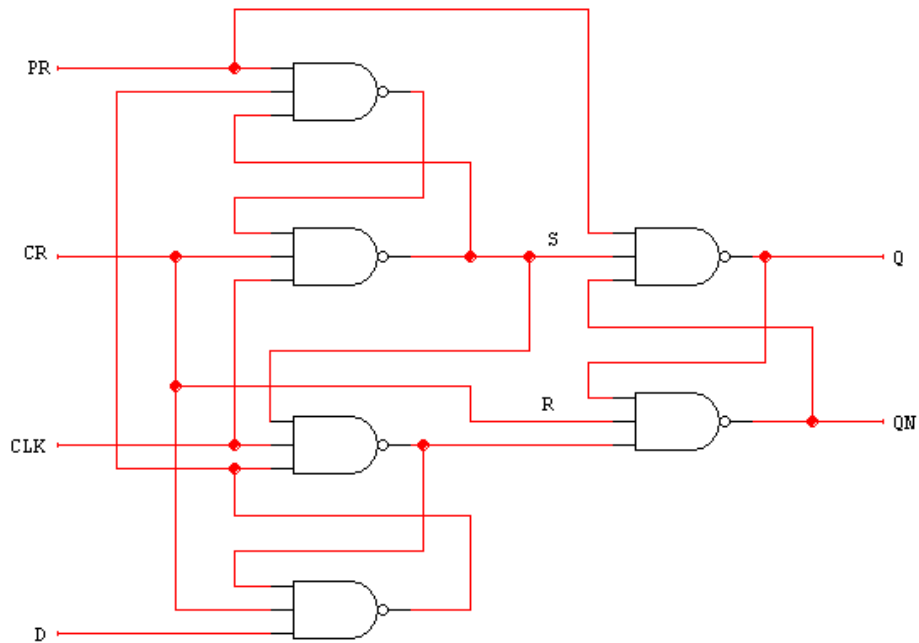

Figure 4-4: NAND gate version of the D Flip-Flop with Preset (PR) and Clear (CR)
Write a Data Flow model description for a NAND gate version of the D Flip-Flop with Preset (PR) and Clear (CR). The logic diagram for the NAND gate version is on Figure 4-4. Draw a Block diagram for your report with the signal names you used in your Hardware Description. Again, you should write the Verilog before lab class. Bring the file to lab class, compile and simulate. Download your Verilog solution to the Spartan3E board. Test the D Flip-Flop and record your results in a function table like the one we did in lecture. Your function table should have the PR and CR signals. Show the waveform display (**Simulation**) in your lab report.